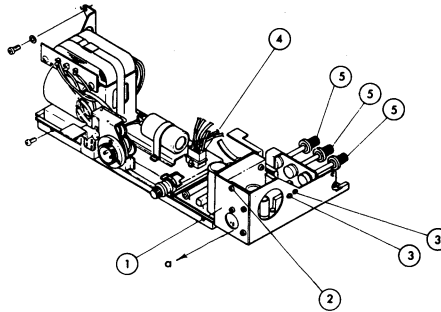

Fig. 14
- f. Attach Fig.14-1 while observing the engagement of Fig.14-a.